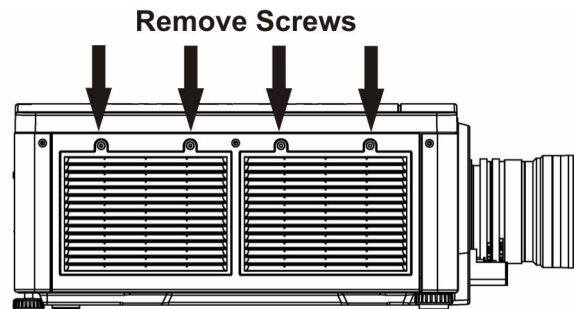

FIGURE 4-1 - REPLACE FILTER
1. Unscrew the 2 captive screws at the top of each filter door (Figure 4-1). Allow the door to rest down and away from the projector.
1. Unscrew the 2 captive screws at the top of each filter door (Figure 4-1). Allow the door to rest down, away from the projector.